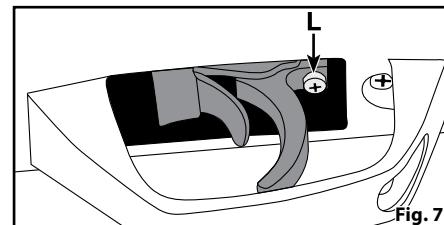

Fig. 7
2. Access the adjustment screw at the rear of the trigger through the hole in the trigger guard (see Fig. 7). **NOTE:** The size and position of the hole in the trigger guard may vary among models.